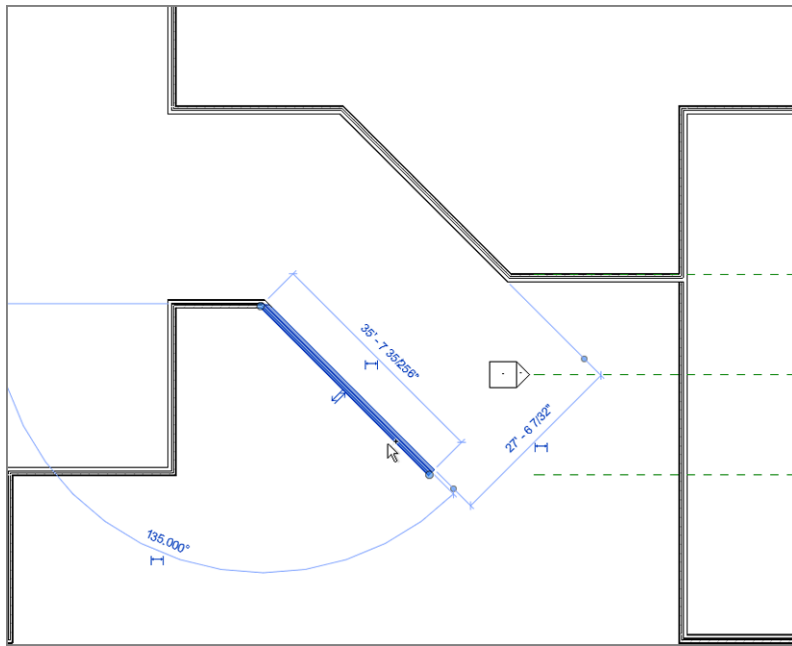

FIGURE 2.14: When you select a wall, you can make adjustments, such as stretching the ends, by picking the blue grips.
1. Pick the bottom diagonal wall. A number of blue icons and dimensions appear, as shown in Figure 2.14. Each of these icons plays a role in the adjustment of the wall.